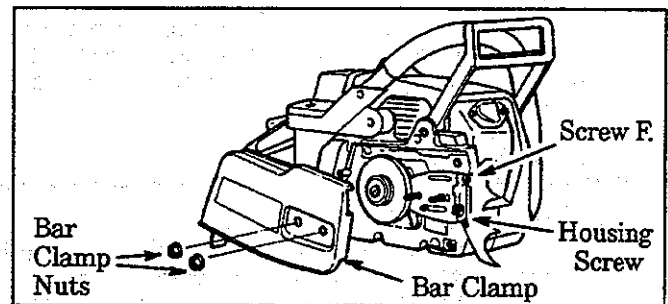

Figure 6
- Set saw upright on a flat surface. Figure 6.
- Remove Bar Clamp Nuts and Bar Clamp using the Bar Wrench provided with the unit. Figure 6.
- Remove the Housing Screw. Figure 6.
- Align screw holes in the Spur over the screw holes on the crankcase. Figure 6.